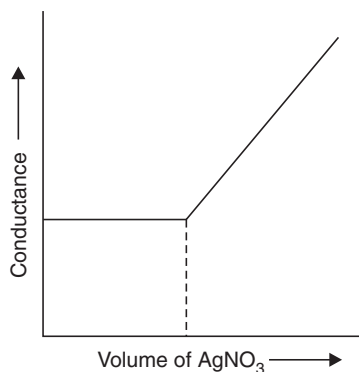

**Fig. 9.10 (b)** Changes in conductivity during titration of a weak acid ( $\text{CH}_3\text{COOH}(\text{aq})$ ) with a strong base ( $\text{NaOH}(\text{aq})$ ).
**Fig. 9.10 (a)** Changes in conductivity during titration of  $\text{NaOH}(\text{aq})$  with  $\text{HCl}(\text{aq})$ . In water  $\text{H}^+(\text{aq})$  and  $\text{OH}^-(\text{aq})$  ions are very mobile, so they conduct electricity very well.